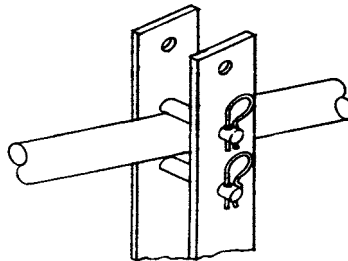

fig. 3
1. You can secure the handle in the front or rear position as well as adjust for height with the clevis pins (item #78, pg. 15) and hair cotters (item #79, pg. 15) provided as shown in figure 3.
3. Select the desired handle location for the job. Remove the hair cotter and the clevis pin (items #78, #79, pg. 15). Swing the handle (item #14, pg. 15) over to convert the stump cutter to a front or rear cutter. If the stump is close to a building or fence, have the cutter head in front. If the stump is in the open, you may find it is easier to chip with the cutter head in the rear. You can also change the height of the handles by positioning the clevis pin in one of several locations. Always secure the clevis pin with the hair cotter pins. (Figure 3 pg. 6).